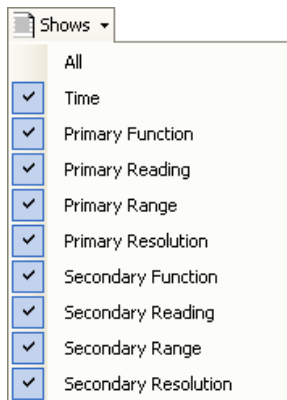

Figure 14 Column display customization
- 5 Go to **Show** menu as shown in Figure 14 to customize the column display preference.